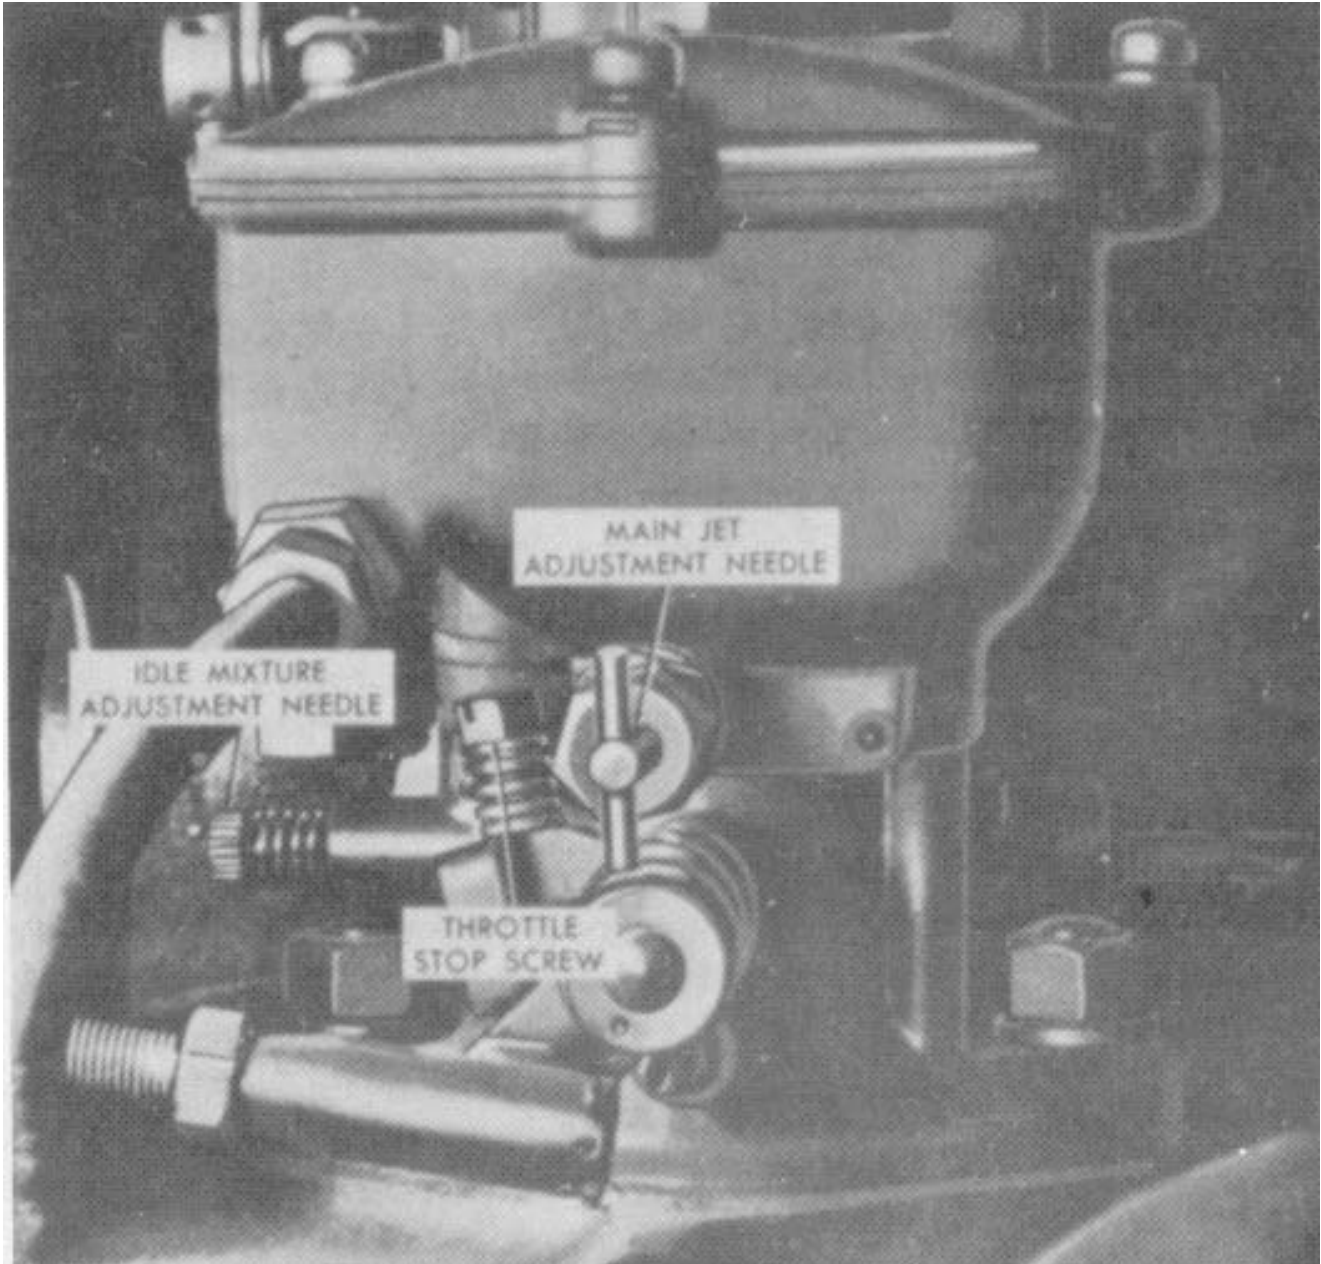

Figure 23. Carburetor adjustments.
b. Adjustment (fig. 23).
- (1) Start the engine-compressor and allow it to run until warm. Then set the throttle stop screw for desired idling speed. Idle speed should be between 500 and 700 rpm, and the speed at which the idle is actually set should be that speed when a minimum amount of vibration takes place. It may be necessary to make a fine adjustment of the throttle stop screw after adjusting the idle adjustment needle.
- (2) the idle adjustment needle to obtain the smoothest possible idle of the engine. Turning the needle in (clock wise) cuts off the flow of fuel and makes the air-fuel mixture leaner. Turning the needle out (counterclock-